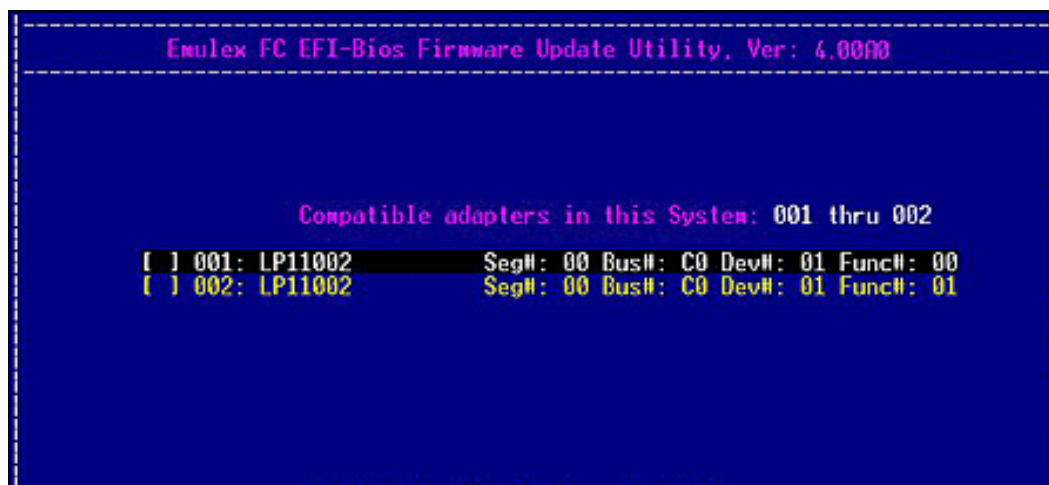

Figure 6-42 Compatible Adapter List
2. Select **2. Batch Mode Update**, and press <Enter>. A list of all adapters of the model selected when you started the EFI utility is displayed (Figure 6-42).